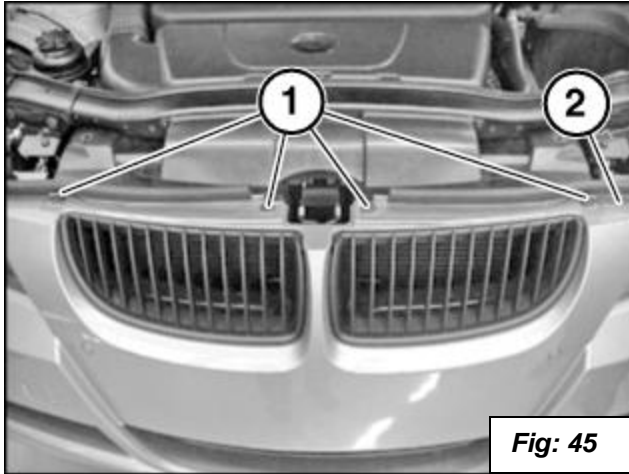
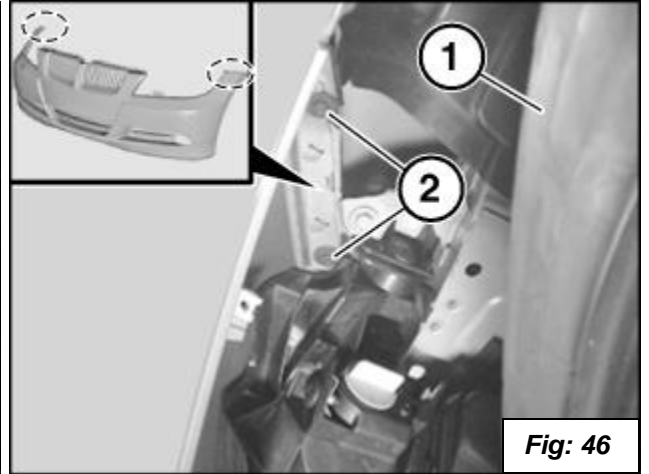

Fig: 45
Fig: 46
53. Fasten the top screws (1) as shown in figure 45 and the side screws (2) as shown in figure 46.